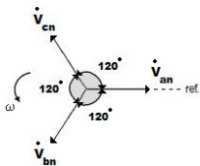

Figure 12 - ABC rotation direction
1. If reading 1 is higher than reading 2, the phases' sense of rotation will be according to figure 12: